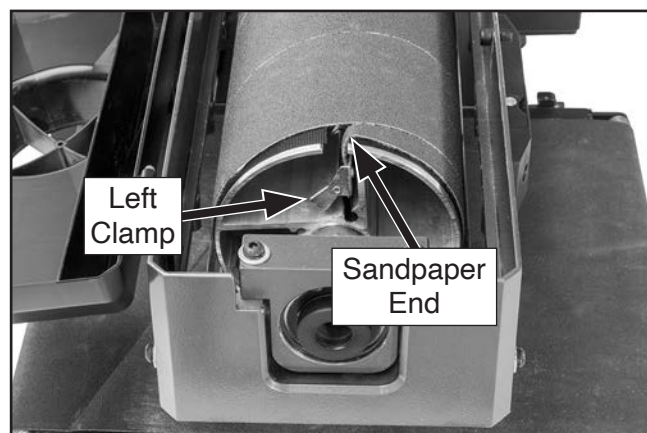

Figure 15. Location of left clamp.
3. Squeeze left clamp and remove sandpaper end from clamp (see **Figure 15**).